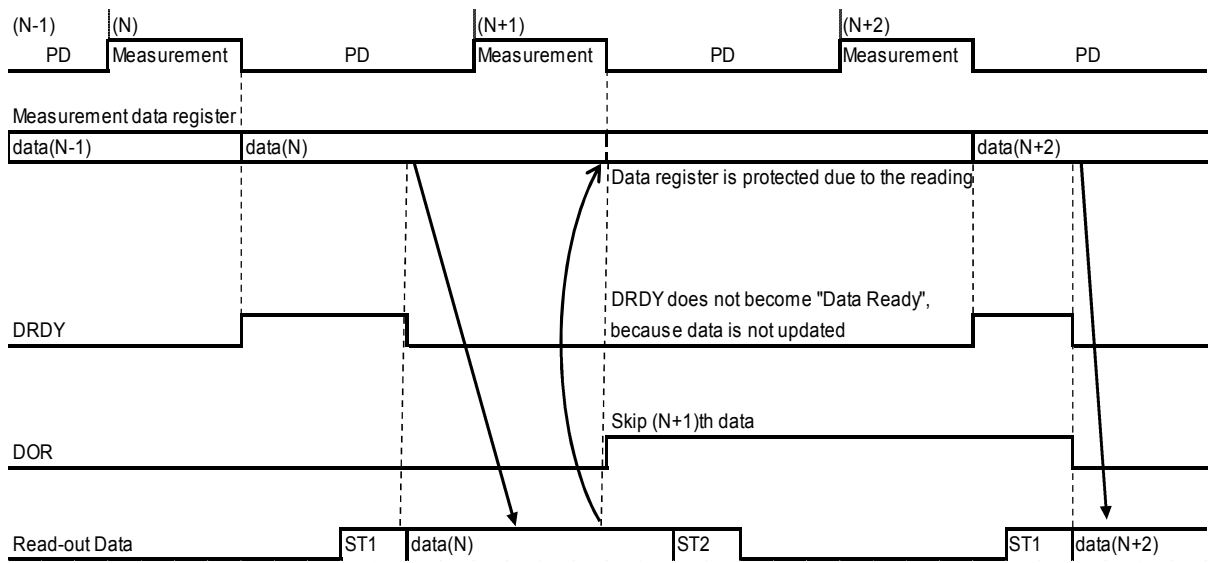

Fig.9. When the data read cannot be completed until the beginning of the next measurement
When a data read begins after the end of the (N)th measurement, and when the data read cannot be completed until the end of the (N+1)th measurement, the measurement data registers are protected to read data normally. In this case, because the (N+1)th data has been skipped, the DOR bit transitions to "1". (Fig.9)